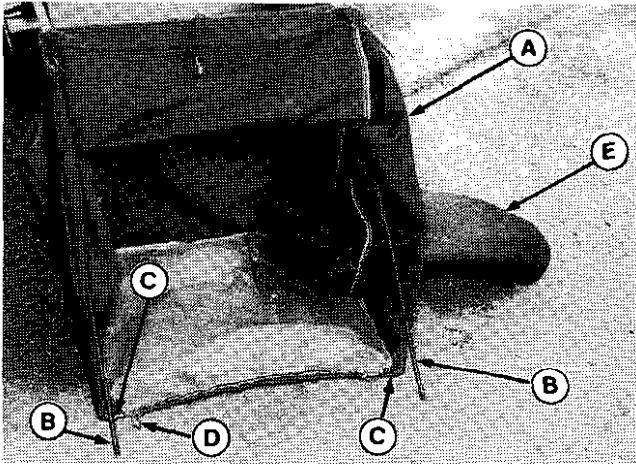
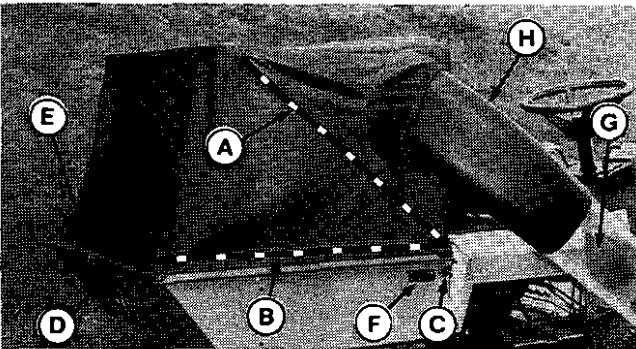
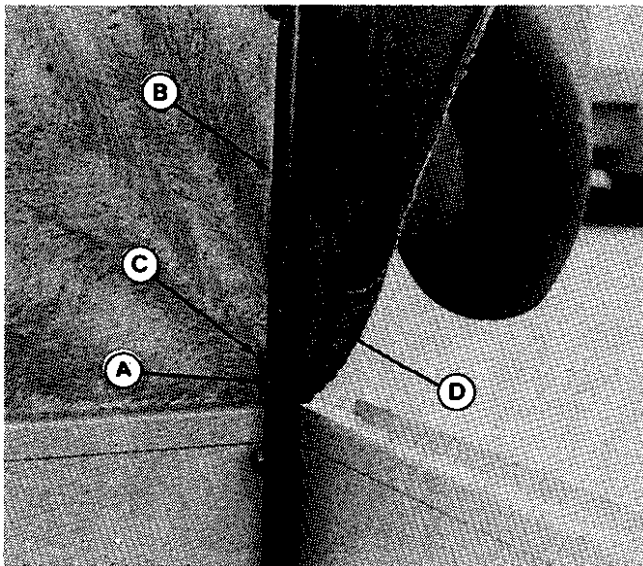

Figure 21.
Figure 22.
Figure 24.
3. The support rod and frame rod must be inserted into the cover (A, figure 21) as follows.
- a. The frame rod (C, figure 21) must be inserted through the bottom sleeve of the cover so that the two bent ends extend out openings, which are next to the cord loops (D). The frame rod position is indicated by dotted line (B, figure 22).
- b. The support rod (B, figure 21), which has eyebolt ends, must be threaded through the sleeve inside the cover. The position is indicated by dotted line (A, figure 22).
When you pick up cover to place over the frame, be sure support rod (B, figure 21) is inside frame rod (C).
4. Insert the elbow (E, figure 21) into the cover opening.
6. On each side, place the eyebolt end of the support rod (B, figure 21) onto the frame rod, then insert frame rod (A, figure 24) through the frame (B). Insert clip (C) through frame rod to secure.
7. Insert an "S" hook to each end of the strap (D, figure 22). Hook one end through washer (E, figure 22) and pinch closed with a pliers.
8. Pull the cover down so it appears as in figure 22. To secure the front, pull the cord loops (C) onto the spacers. To secure the rear, hook the strap (D) onto back of cart as shown.
9. Install warning decal (F, figure 22) so it is visible from right-hand side. Make sure surface is clean. Remove backing paper and tack edge of decal in position. Then apply with heel of hand, smoothing out bubbles. The edge of a ruler can also be used.
2. Insert the elbow (H, figure 22) onto the tube.